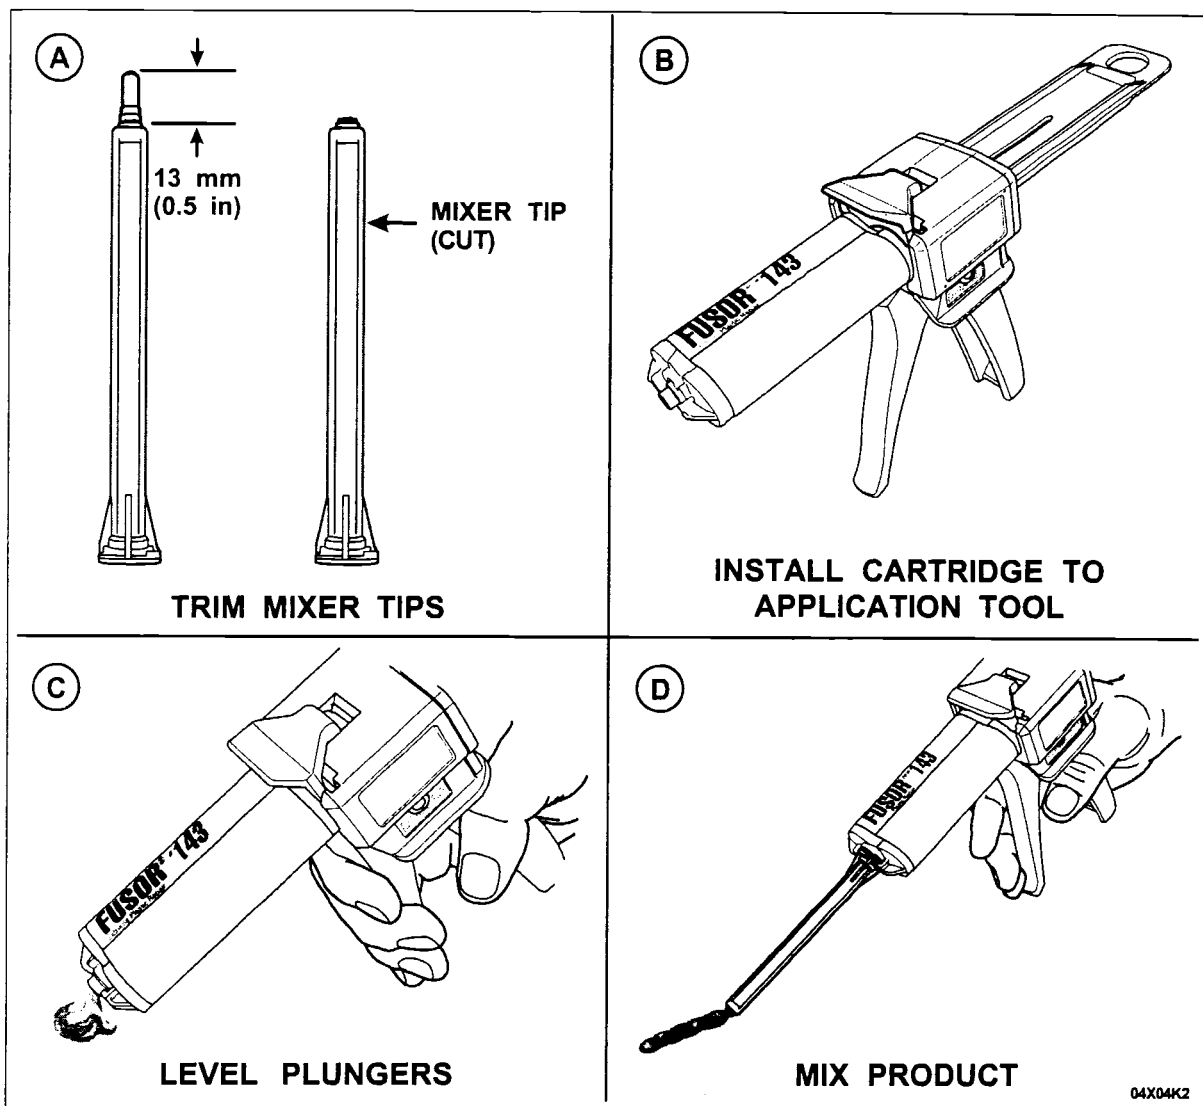

FIGURE 11
- A) Trim approximately 13 mm (0.5 in) off the top of both mixer tips, down to the last ring. See Figure 11.
- D) Install one (1) mixer tip onto the cartridge and dispense a 75-mm (3-in) bead of the adhesive onto a piece of scrap cardboard (until the product is evenly mixed and the color is consistent).